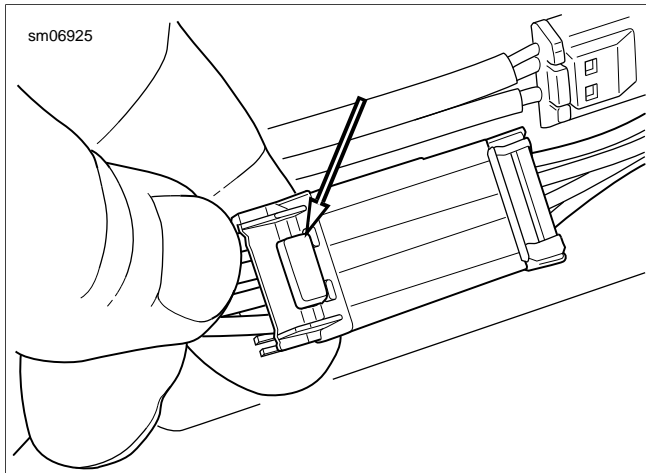

Figure A-40. Release Buttons: JAE MX19 Sealed Connector
**Separate Housings:** See Figure A-40. Press the two release buttons on each side of the housing to separate the connector.